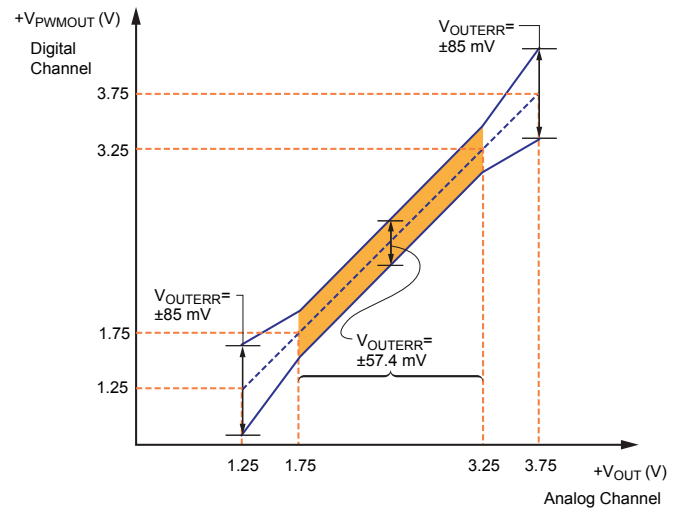

Figure 6. Definition of PWM to Analog Output Mismatch,  $V_{OUTERR}$
$D_{(Q)}$  is the quiescent PWM signal with no input field ( $B = 0$  G), and  $D_{(field)}$  is the PWM signal in response to the input magnetic field. In other words, the product of PWM sensitivity (%D/G) and input magnetic field (G). (See figure 6.)